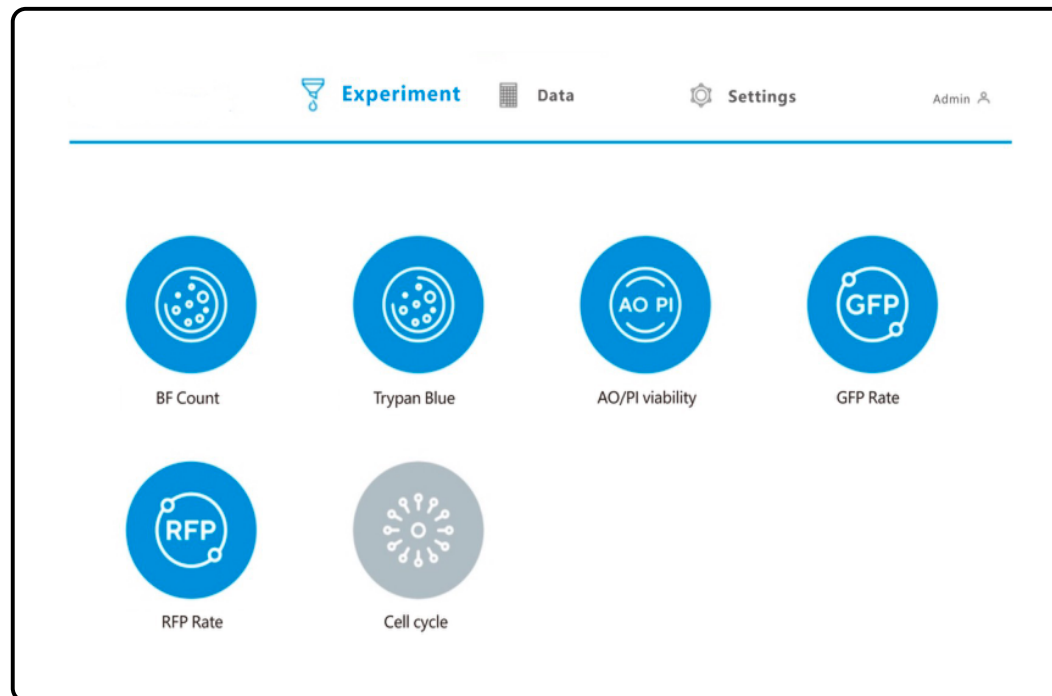

Figure 5 Experimental Type Interface
- 1 Figure 5: On the "Experiment" screen of the display, click the icon of the type of experiment tested, such as "AO/PI Viability".